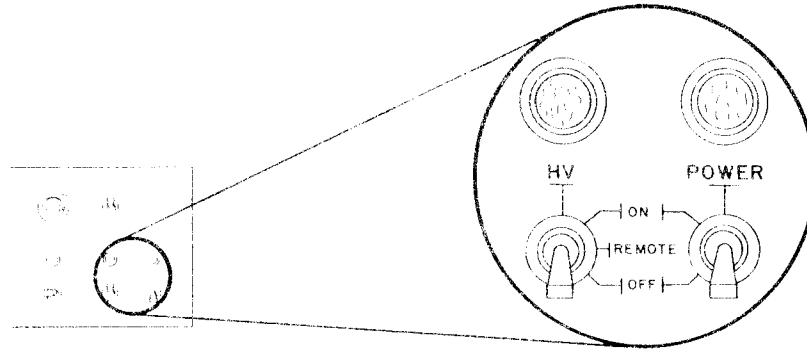

Figure 73. POWER and HV Switches to OFF
- a. Ensure the POWER switch and the HV switch are set to OFF (see Figure 73).